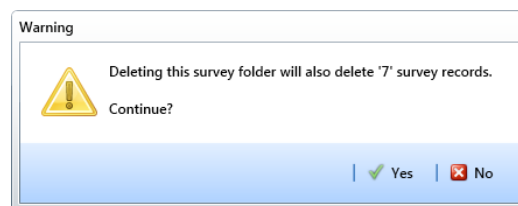

Figure 6-10. Warning
- 7 Click **Yes** when a warning displays asking if you want to continue deleting the survey folder and associated survey readings (Figure 6-10).